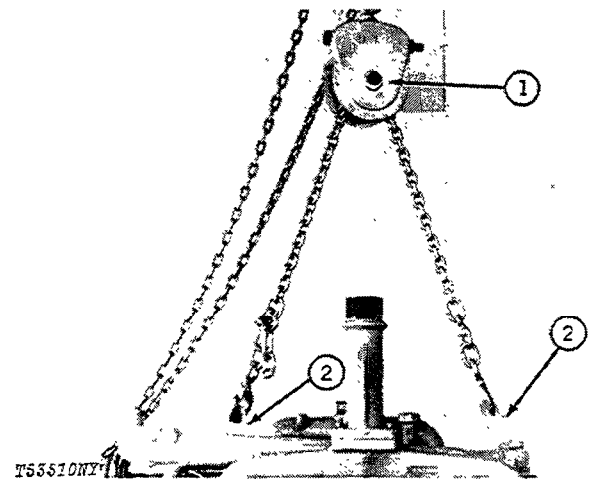

Fig. 11-D-01043AA Load Positioning Sling Attached
Attach hoist with D01043AA Load-Positioning Sling (1, Fig. 11) to engine lifting eyes (2).
Remove hoist and sling (1, Fig. 11) from engine.